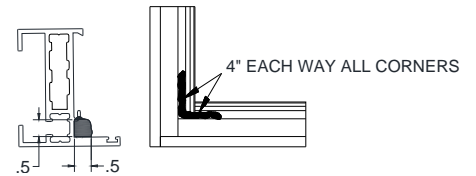

Figure 11:
- Apply a 1/2"x1/2"x4" bead of compatible sealant from each corner on inner flange of panel (Figure 11).